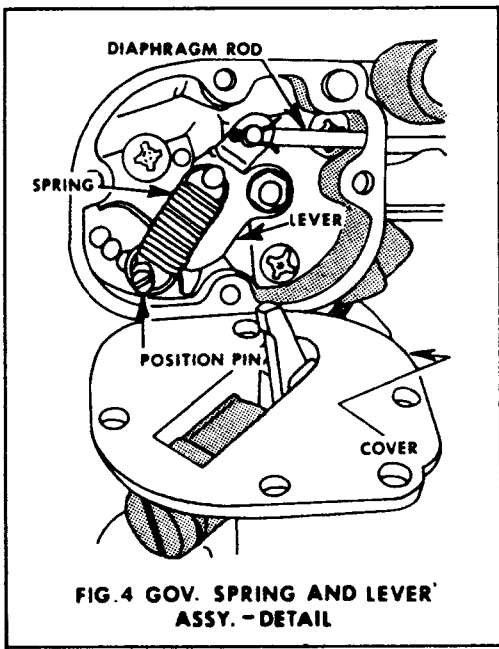

FIG. 4 GOV. SPRING AND LEVER ASSY. - DETAIL
(c) From inside governor housing (CJ) first, note position of tension spring (CT) then unhook both ends of same and remove (See Fig. 4).